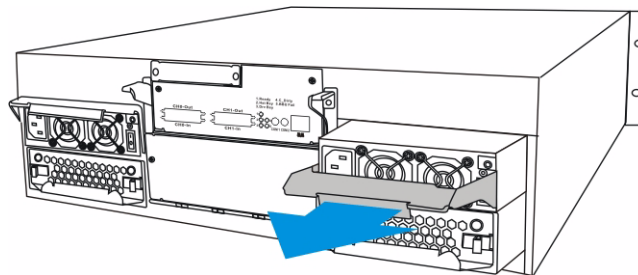

Fig. 6.14 Dislodging the PSU
5. After the PSU module has been dislodged from the enclosure, use the handle to gently pull the PSU module out of the enclosure. (See *Figure 6.14*)